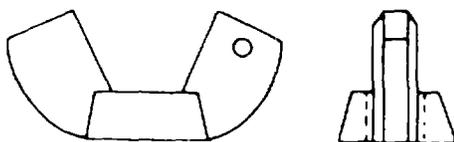

Figure 2-26. Wingnut
f. Wingnuts. Use MS35425 and MS35426 wingnuts, as shown in figure 2-26, where desired tightness is ordinarily obtained by the fingers, and where the assembly is removed frequently. When a plain wingnut requires securing with lockwire, a 0.070 inch ( $\pm 0.010$  inch) diameter hole must be drilled in the center of one lobe The WC02 self-locking wingnut does not require lockwire.